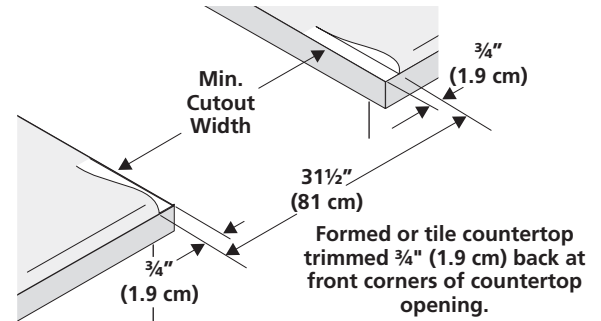

Figure 7
- **Formed front-edged countertops** must have molded edge shaved flat $\frac{3}{4}$ " (1.9 cm) from each front corner of opening (Figure 7).
- **Tile countertops** may need trim cut back $\frac{3}{4}$ " (1.9 cm) from each front corner and/or rounded edge flattened (Figure 7).